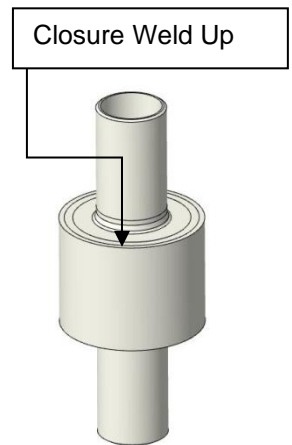

Figure 1
5. The joint may be installed above and below ground. If the joint is installed vertically, ensure the **closure weld**, on the center hub, faces up (see Figure 1).
2. There is no preferred directional orientation for the insulating joint. However, when installed in the vertical position, the closure weld side should face up as shown in Figure 1.